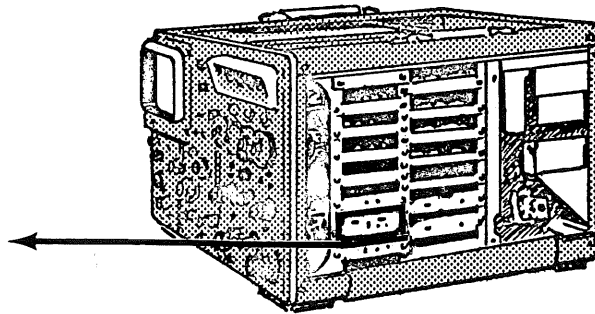

Figure 2-17
2. Set the B 100% Zone Width, R4 - See Figure 2-17, full CW. The 100% zone must cover the trace.